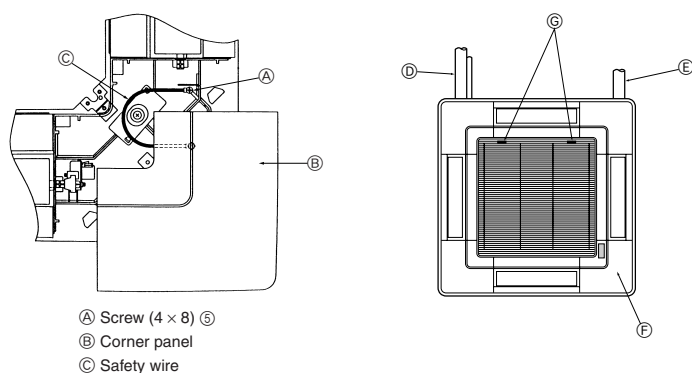

Fig. 5-10
5.7. Installing the intake grille (Fig. 5-10)